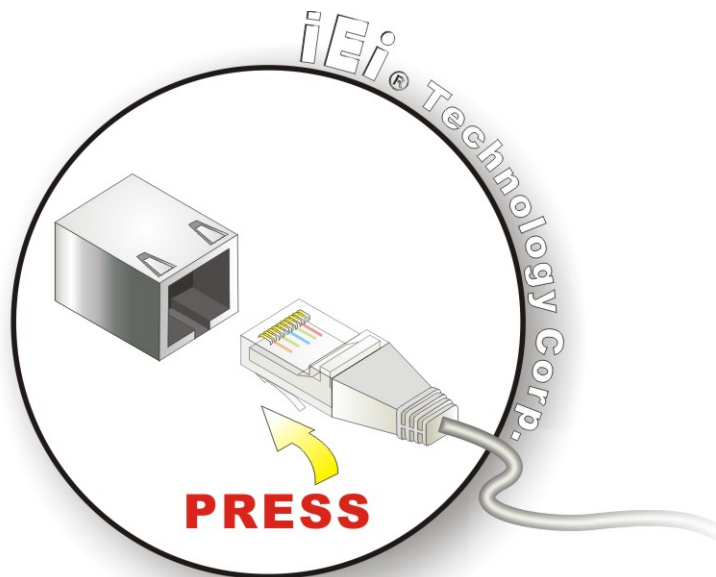

Figure 4-18: LAN Connection
Step 2: **Align the connectors.** Align the RJ-45 connector on the LAN cable with one of the RJ-45 connectors on the PICOe-PV-D4251/N4551/D5251. See **Figure 4-18**.